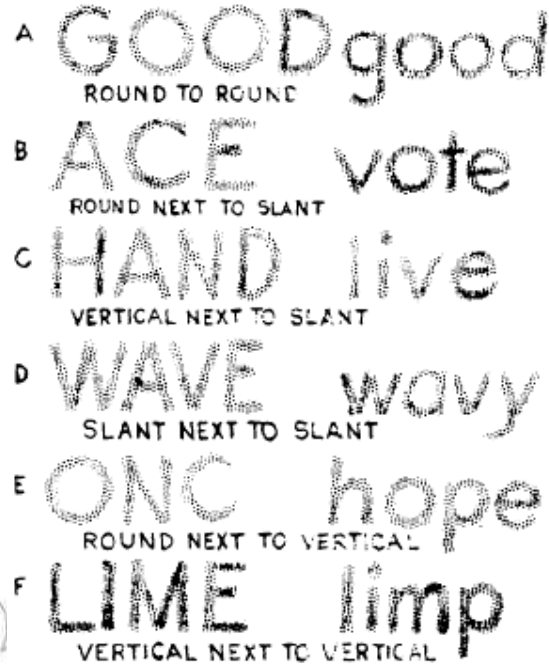

Fig. 4.17 Common spacing problems
1. Round next to round. (Increasing area at top and bottom where letters curve away from each other, as in Fig.4.17 (A).
2. Round next to slant. (Increasing area at top or bottom where letters move away from each other, as in Fig.4.17 (B).
3. Vertical next to slant. (Increasing area at top or bottom where one letter slants away from the other, as in Fig.4.17 (C).
4. Slant next to slant. (Increasing area at top or bottom where letters slant in opposite directions, as in Fig.4.17 (D).
5. Round next to vertical. (Increasing area at top and bottom where round letter curves away, as in Fig.4.17 (E).
6. Vertical next to vertical. (Decreasing area at top and bottom where stems move together, as in Fig.4.17 (F).